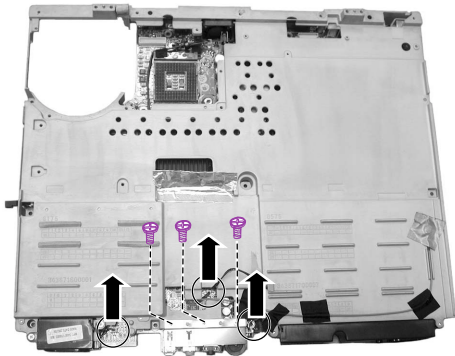

Figure 2-25 Remove the screws and disconnect the cable
6. Remove three screws fastening the connectors shield and disconnect the cables. (Figure 2-25)